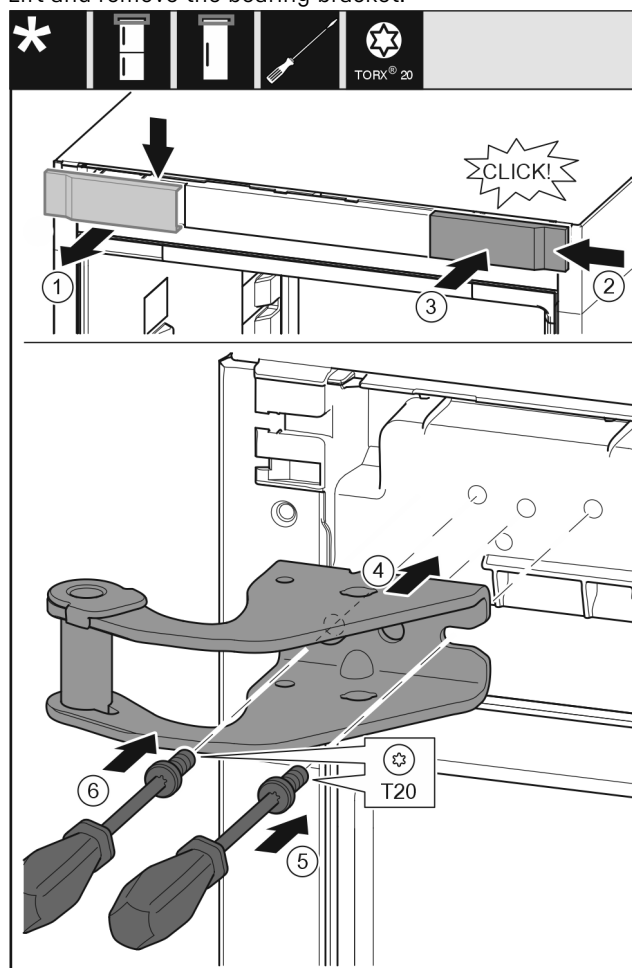

Fig. 15
- Take off the cover to the front from above. Fig. 15 (1)
- Rotate the cover 180° and clip onto the other side from the right. Fig. 15 (2)
- Latch the cover into place. Fig. 15 (3)
- Position the upper bearing bracket. Fig. 15 (4)
- Insert the screw with a T20 screwdriver and tighten it. Fig. 15 (5)
- Insert the screw with a T20 screwdriver and tighten it. Fig. 15 (6)